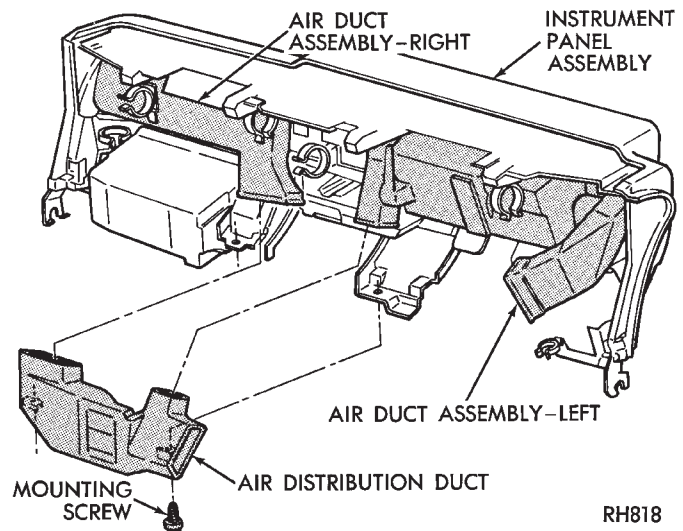

Fig. 6 Air Distribution Ducts—Typical
- (1) Remove lower instrument panel module. Refer to Group 8E, Instrument Panel.
- (2) Remove distribution duct attaching screws from under the front edge of the instrument panel (Fig. 6).
- (3) Slide duct downward and remove from vehicle.